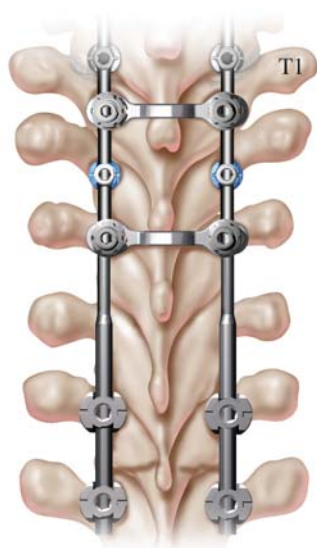

Figure 26
- Select the appropriate rod. Cut and contour rod to meet individual anatomical requirements. Hand-malleable templates are available to assist in determining optimal rod configuration. Contour the Dual Diameter Rod to precisely match the curve of the template (Figure 26).